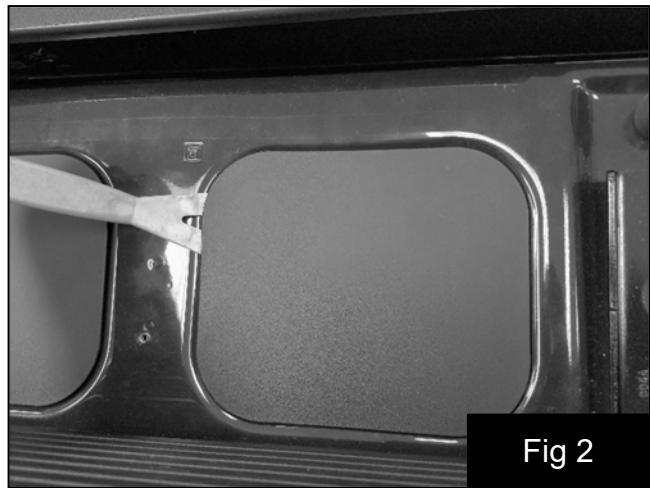

Fig 2
3. Remove the four plastic cover panels. Some vehicles may be equipped with a light kit in two of the panels. If equipped with lights, the lights will be reinstalled into the Kicker speaker baffle later. Fig 2